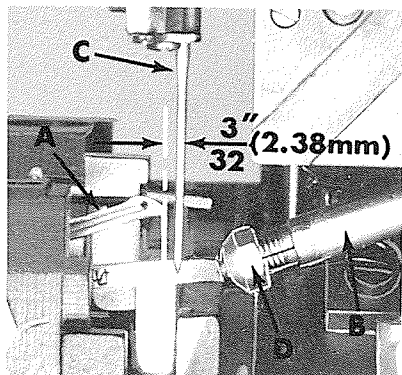

Fig. 8
Insert the lower looper (A, Fig. 8) into bar (B). With lower looper at the left end of its stroke, set looper point  $\frac{3}{32}$  inch (2.38 mm) from centerline of right needle (C). Set looper point into needle scarf to touch but not deflect, approximately .001 inch (.025 mm) clearance. Adjustment can be made by rocking the looper forward or backward around its shank. Recheck specified lower looper gauge setting and tighten nut (D, Fig. 8). Check for .025 inch (.635 mm) minimum looper clearance under throat plate stitch tongue (see sketch). Add .009 inch (.229 mm) shims No. 39880 J under throat plate support bracket if needed, but not to exceed two shims. For proper setting, looper point should be at or slightly below center